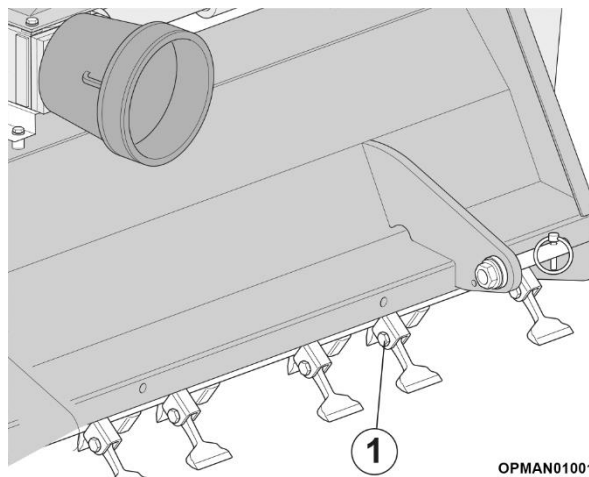

Figure 6
- Ensure that the flail bolts (1) indicated in Figure 6, are properly fastened to the shaft and are not damaged and the flails themselves can move freely.